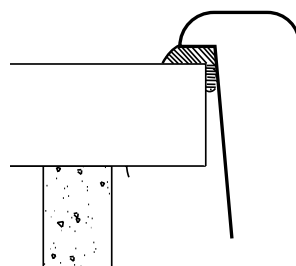

Fig. 1.21
- Turn the sink over and feed into pre-prepared cut-out **(Fig. 1.21)**.